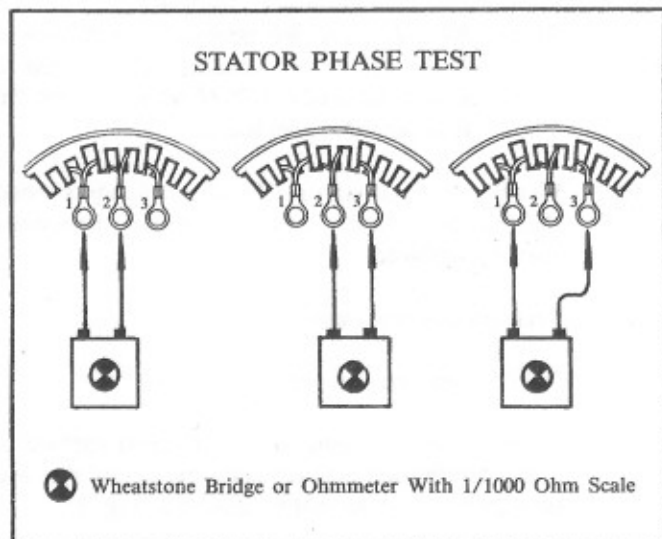

Figure 12
- 12.1 Connect test leads to stator terminals 1 & 2, 2 & 3, and 1 & 3. Fig. 12.